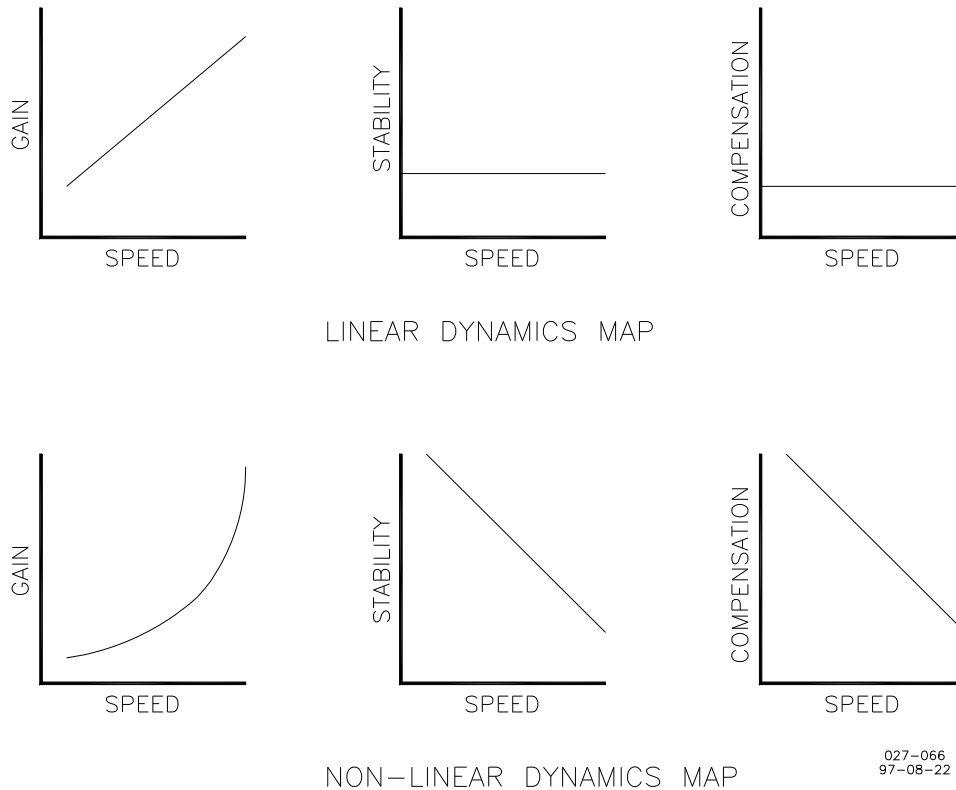

Figure 3-6. Dynamics Map Curves
7. Dynamics Map selects the mapping algorithm used to map dynamics as a function of engine speed. Figure 3-6 illustrates how dynamics vary as a function of engine speed for each map. The 701A control provides two dynamics maps, Linear and Non-Linear.